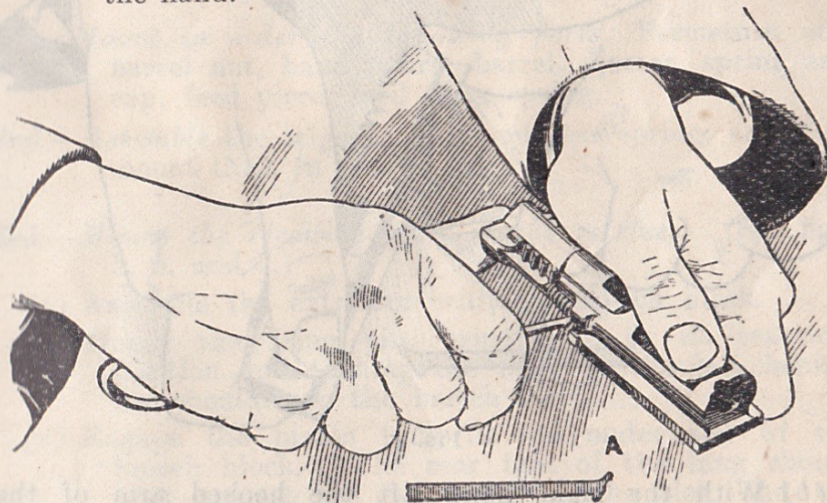

FIG. 3.
- 14th.—Remove the extractor. (See figs. 3 and 4.)